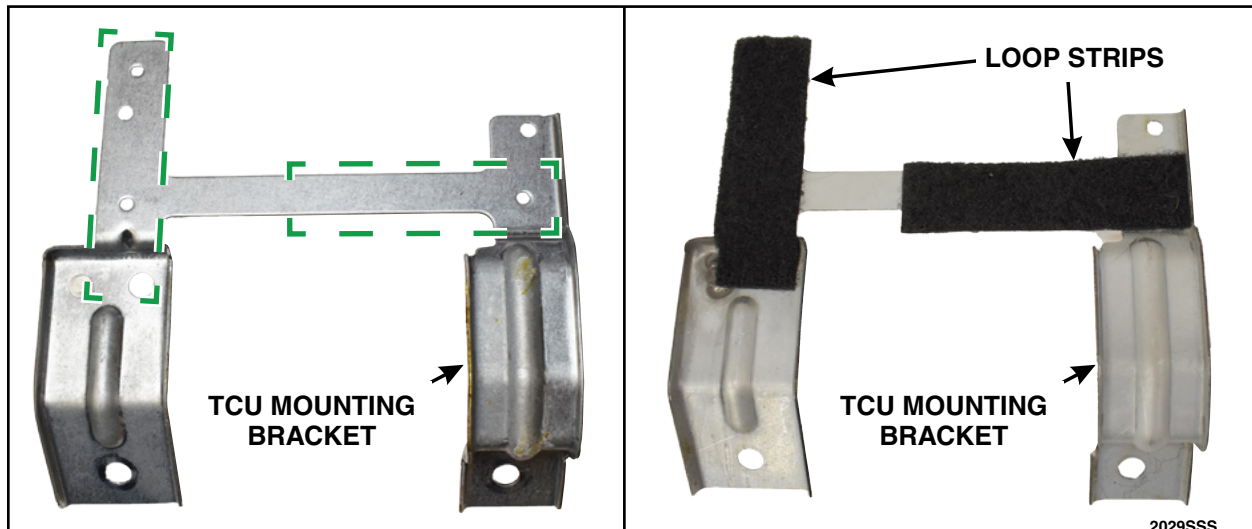

FIGURE 4
7. Clean the mounting bracket and apply loop strips. See Figure 4.